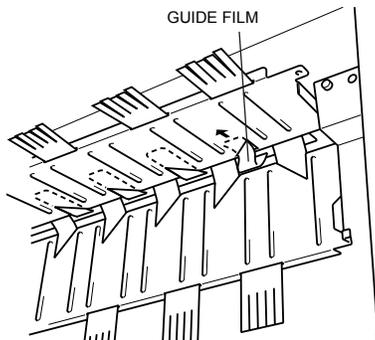

Figure D-8
12. Insert the guide film into the hole in the upper part of the swing guide (front side).(Figure D-8)